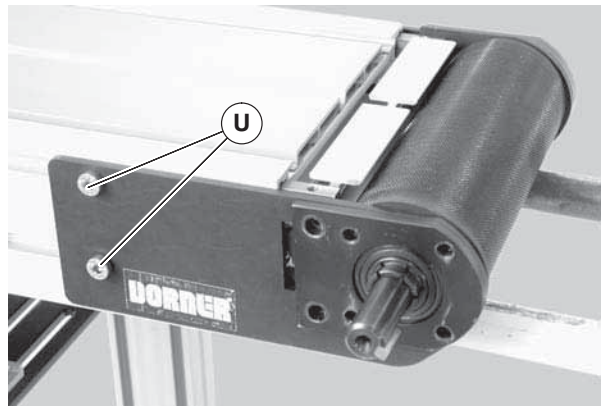

Figure 70
6. Remove the outer headplate assembly (Figure 70, item CG), and inner spacer (BK).